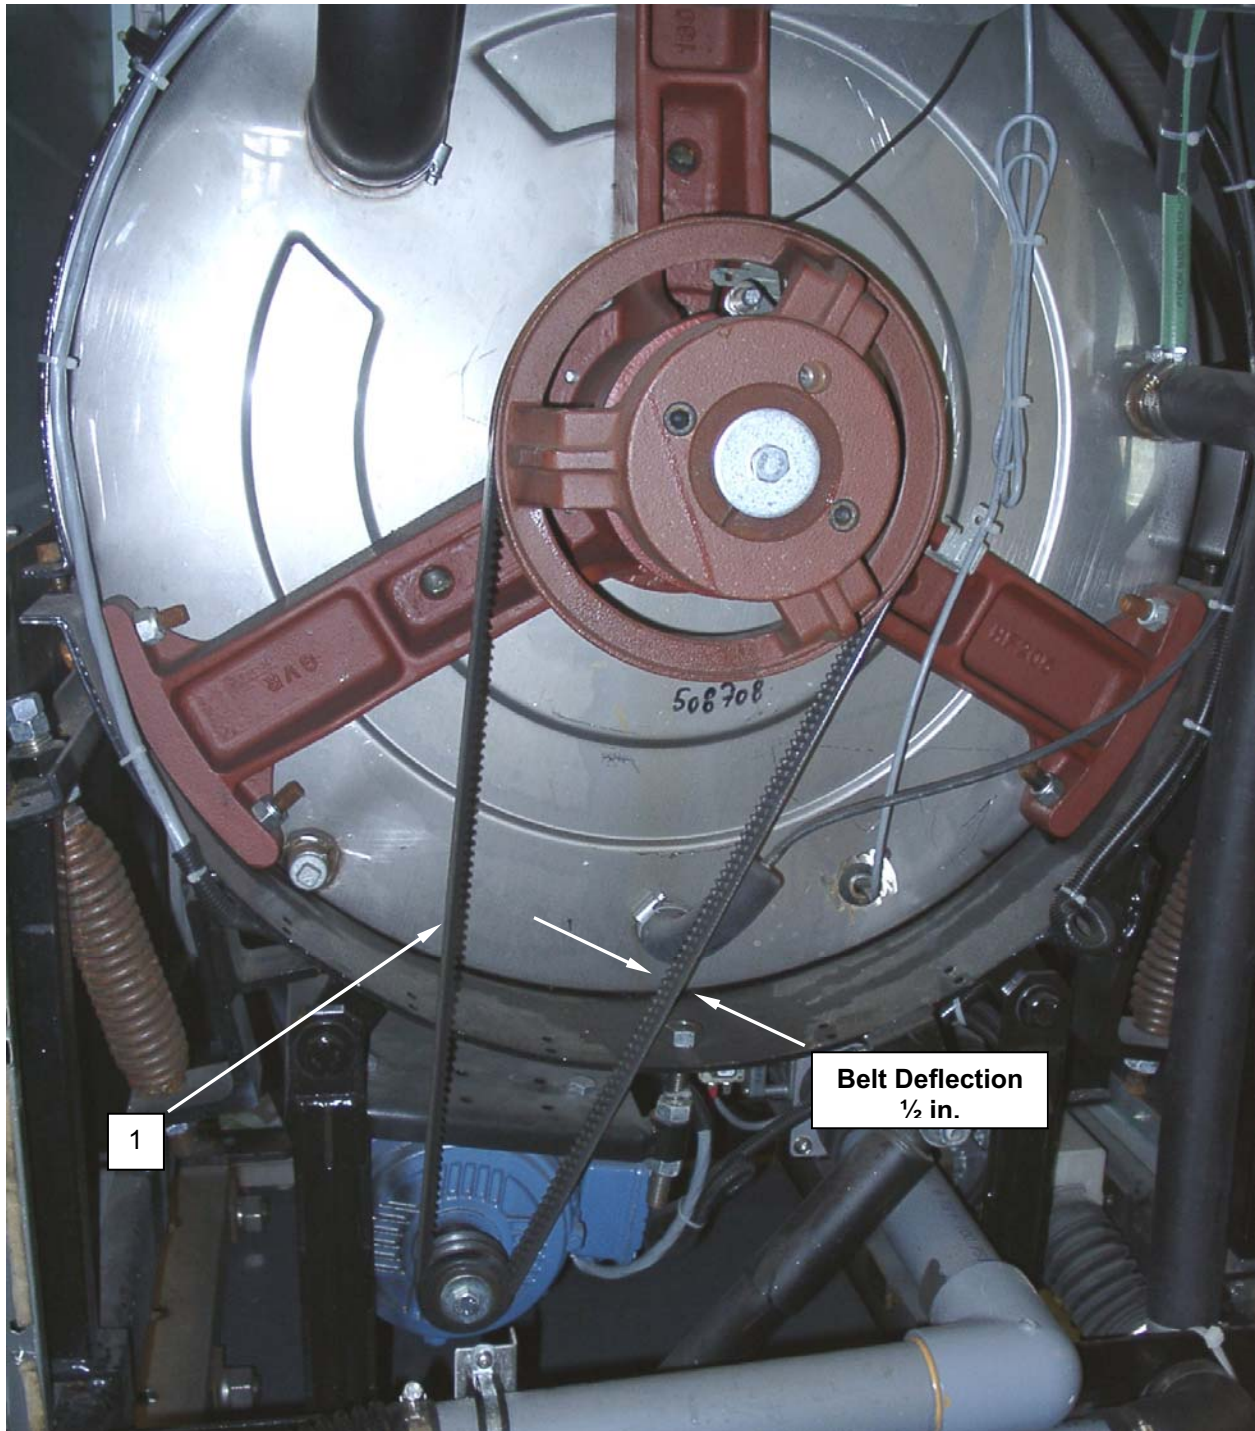

Figure 1. Inspect the Washer Drive Belts.
2. Inspect belt (**Figure 1, Item 1**) for physical damage such as fraying and wear.